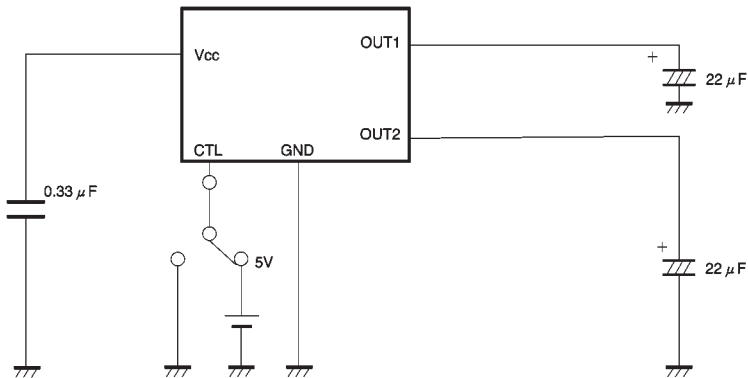

Fig.8
(1) The application circuit of Fig.8 is recommended for use. Make sure to confirm the adequacy of parts characteristics. When using the circuit with changes to external circuit constants, make sure to leave sufficient margins in consideration of fluctuations in the IC and external components including static and transitional characteristics. Note that ROHM has not carried out extensive survey regarding the patent right of this application.
(2) Operating power supply voltage